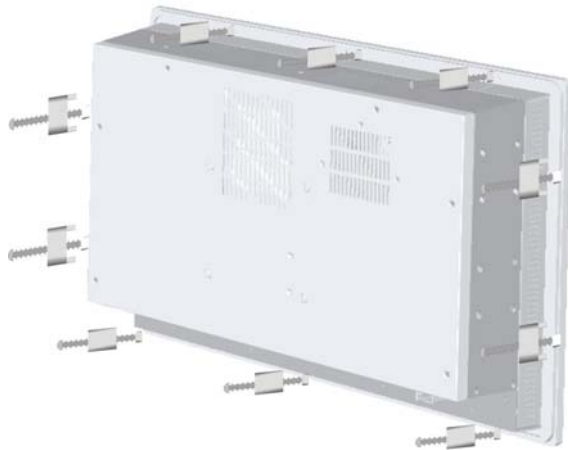

Figure 3-28: Panel Mounting Clamp Positions
Step 4: Insert the panel mounting clamps into the pre-formed holes along the edges of the PPC-51xxA-H61, behind the aluminum frame (**Figure 3-28**). Refer to the mounting kit packing list for the required number of mounting clamps.